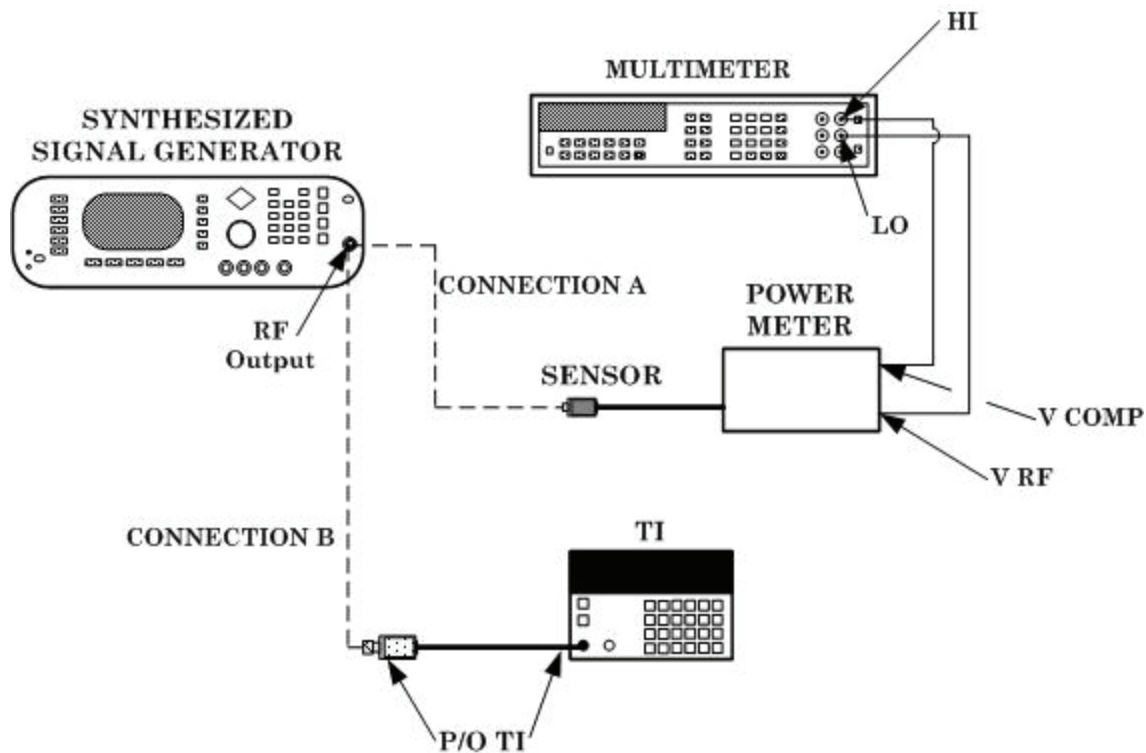

Figure 6. Frequency response - equipment setup.
- (1) Press pushbuttons as listed in paragraph 9 a (1) above.
- (2) Replace thermistor mount H75-478A with thermistor mount 8478B and allow warm-up of power meter.
- (3) Connect equipment as shown in figure 6, CONNECTION A.
- (4) Adjust synthesized signal generator for a 1 GHz, 1 mW output as indicated on power meter.
- (5) Calculate power using precision power measurement technique listed in paragraph 8 a (7) through (12) above. Record power level.
- (6) Press **MODE PWR, X** (where X is the frequency being measured) and **CAL FAC GHz** pushbuttons.
- (7) Connect equipment as shown in figure 6, CONNECTION B. If display does not indicate within 3 percent of power calculated in (5) above, perform **b** below.
- (8) Repeat technique of (3) through (7) above for frequencies and tolerances listed in table 10.
- (1) Connect equipment as shown in figure 6, CONNECTION A.
- (2) Adjust synthesized signal generator for a 1 GHz, 1 mW output; calculate using precision power measurement technique described in paragraph 8a(7) through (12) above.
- (3) Connect equipment as shown in figure 6, CONNECTION B.
- (4) Press **MODE**, **dB**, **0**, **CAL FAC GHz**, **0**, **CAL FAC dB** pushbuttons.
- (5) Record difference in TI display and 00.00 dBm actual.